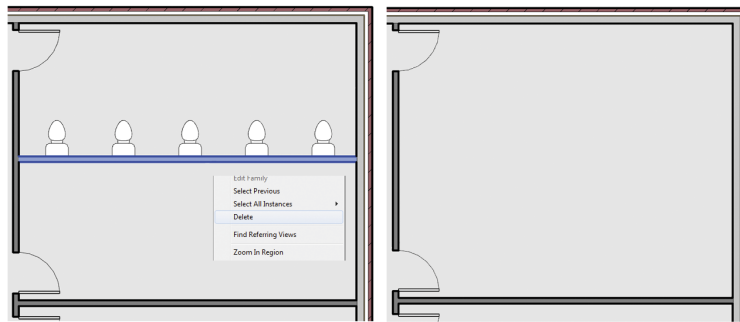

FIGURE 5.9 Placing hosted components and deleting the wall
2. In the room at the upper right in the layout, place five instances of the `ex-5.5hosted.rfa` family on the horizontal partition wall (Figure 5.9). Space the first and last fixtures roughly 3'-0" off the wall ends, and set the other three equally spaced. Notice that you can place these components only on a wall.
4. Delete the partition wall where you placed the components in step 2. The hosted plumbing fixtures are automatically deleted when the wall segment is deleted (indicated in Figure 5.9). Use the Undo command to restore the wall and hosted fixtures.